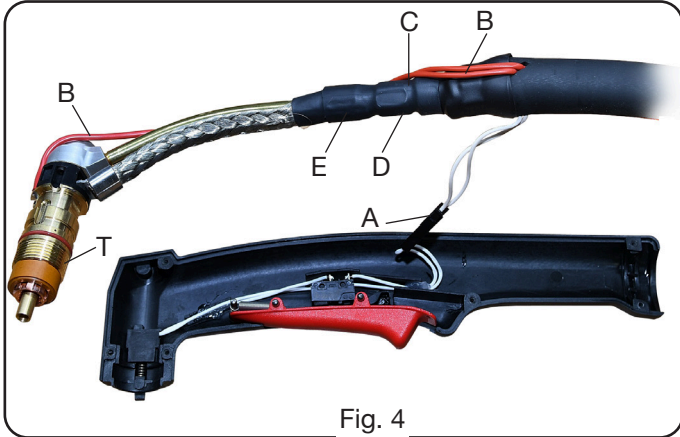
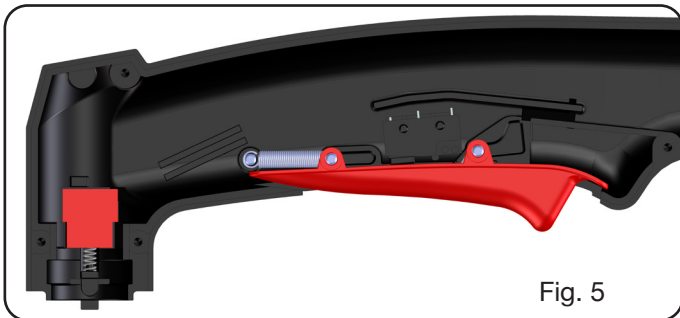

Fig. 4
Fig. 5
- With reference to Fig.4, lift the welding torch body **T** with cable and disconnect connector **A** (push-button) and connector **B** (pilot arc) making sure that the push-button components (see Fig. 5) remain in the original position.
- Connect connector **B**, introduce the welding torch body into the grip seat and then connect connector **A** by introducing it inside the grip as shown in figure 4.
- With reference to Fig.4, lift the welding torch body with cable and disconnect connector **A** (push-button) .
- Replace the grip with push-button, connect connector **A** and introduce it inside the grip, as shown in figure 4, and then position the welding torch body with cable inside the **RH** grip seat.